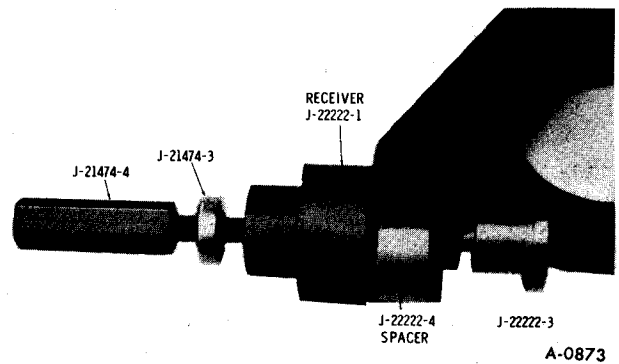

Figure 19—Removing Upper Control Arm Bushing
4. Move control arm out of frame brackets and attach bushing removal tools as shown in figure 19. Remove bushings.